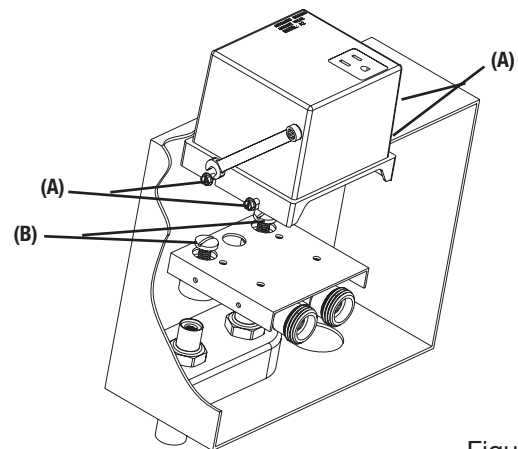

Figure 1
- A4. Remove the cover by unscrewing the four (4) 1/4" hex head screws (A) using a 1/4" open end wrench. (See Figure 1)
- A5. Remove the A2 by unscrewing both slotted screws (B) on the top of the valve. Go to step #6.